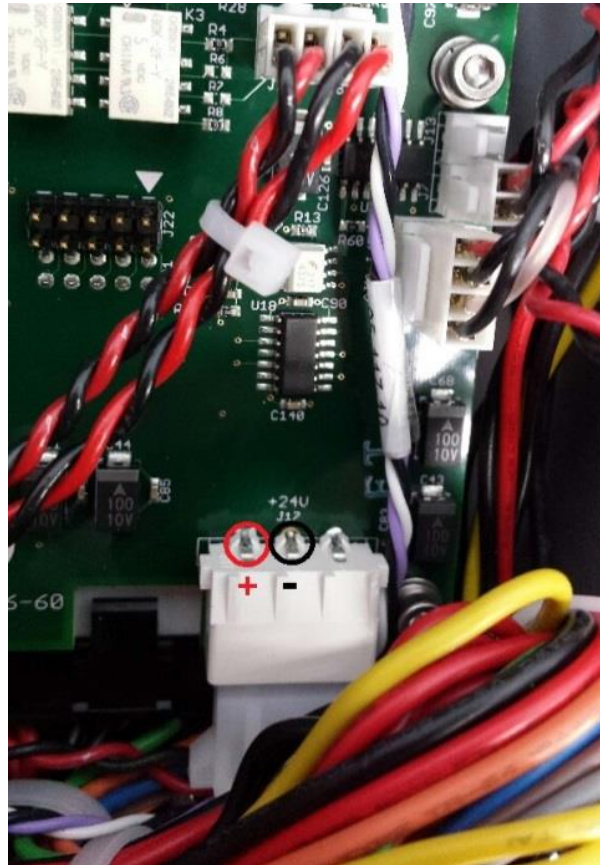

Figure 3
7. Check for 28 V DC on **J17** on the Expansion Module. This will verify that the 28 V Power Supply is functional. See **Figure 3** for location and test points.